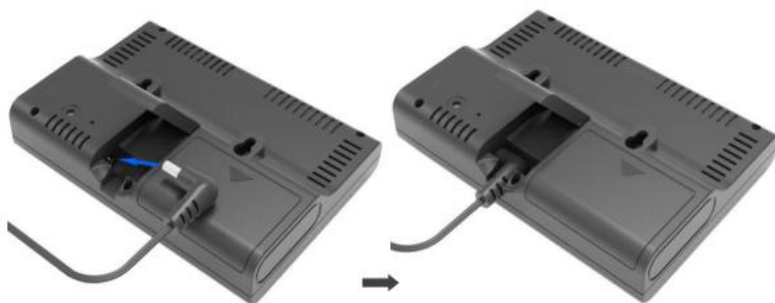

Figure 9
2. Insert the DC plug correctly;as shown in Figure 9.